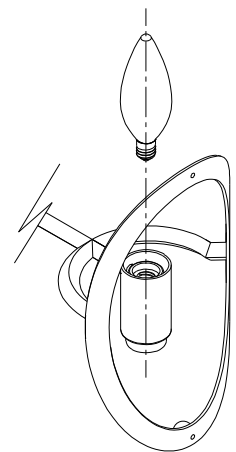

FIGURE-04
9. Place the lamp into the socket of the fixture. (See FIGURE-04)